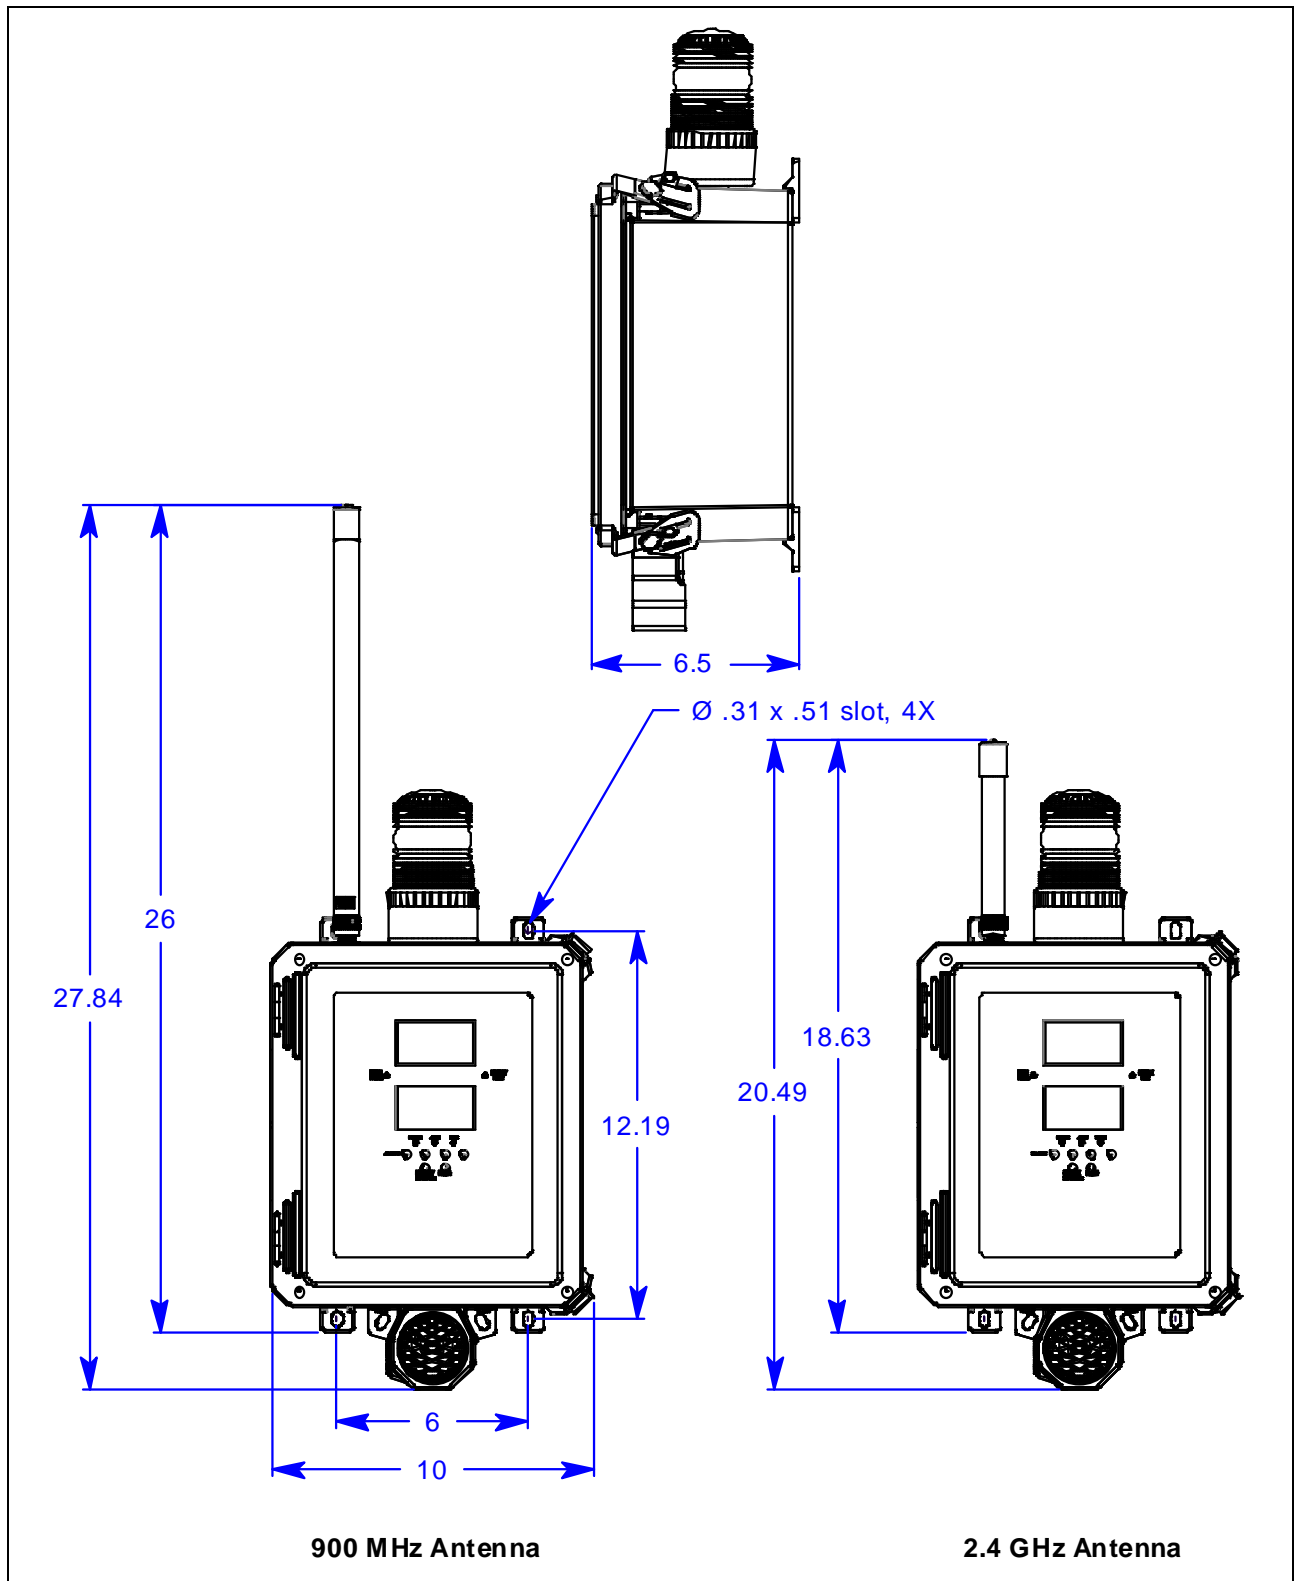

Figure 4: Outline and Mounting Dimensions
3. Prepare the selected mounting site as required to mount the AirLink 7010. It should be mounted at eye level (4 1/2 to 5 feet from the floor). Refer to Figure 4 for the outline and mounting dimensions.